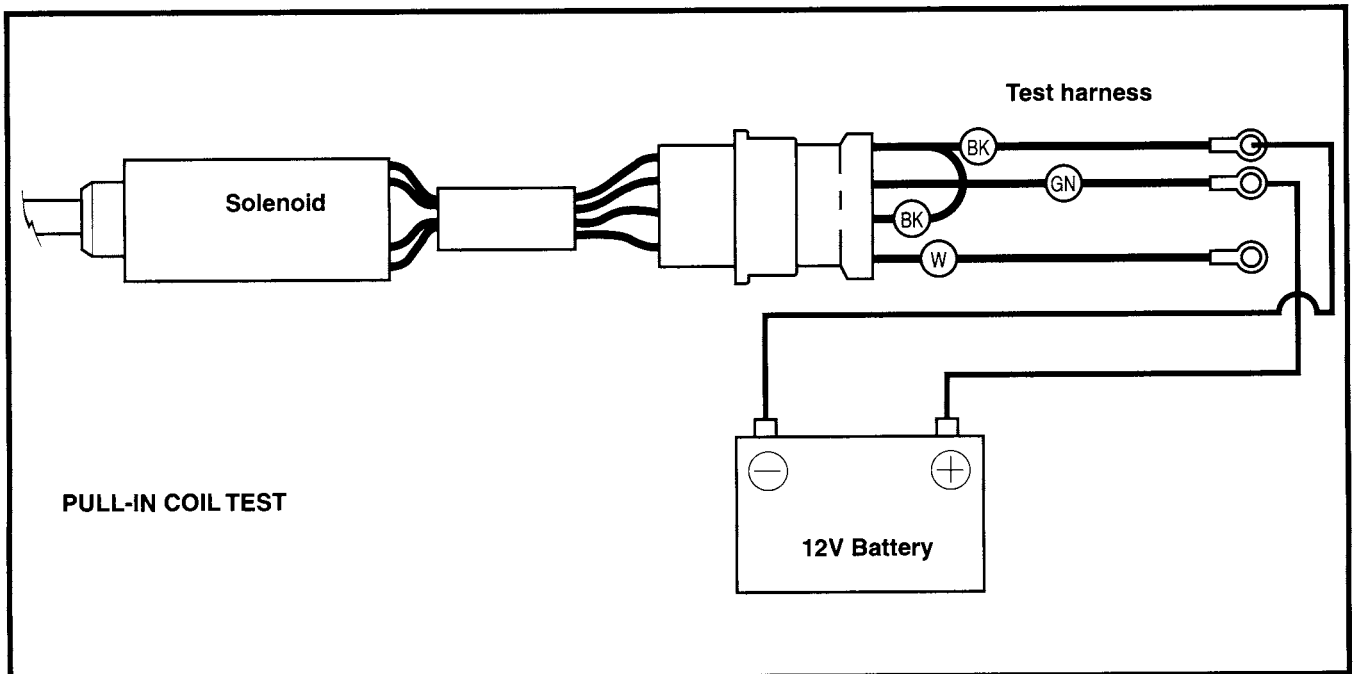

Figure 24. Pull-in Coil Test Hookup
1. See Figure 24. Connect a 12-volt battery to the solenoid test harness as shown. The butterfly valve must open.